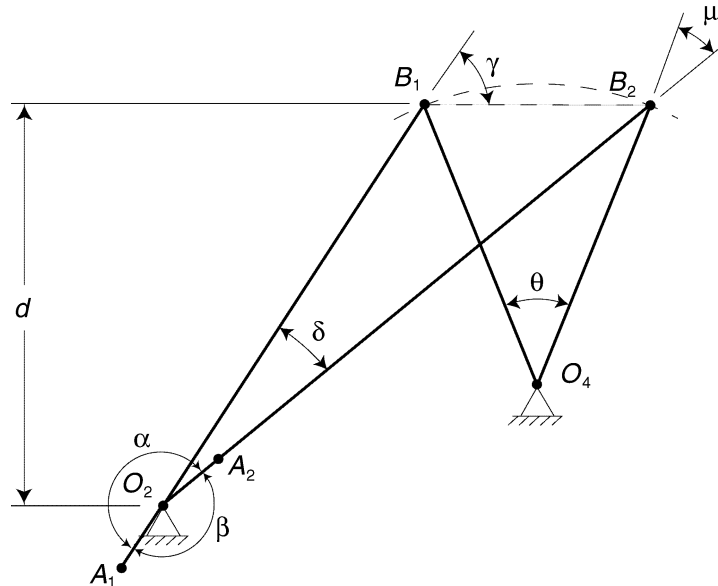

Figure 1. Graphical design of a crank-rocker type quick-return mechanism.
You will need a pencil, ruler, compass, and protractor for this design. Refer to Figure 1 during this process.
where  $d$  is the perpendicular distance between  $O_2$  and the line passing through  $B_1B_2$ , as indicated in Figure 1. Both of these criteria must be satisfied for the crank to rotate a full revolution.
8. The transmission angle  $m$  is the angle between coupler and the rocker. In the case of the crank-slider, the rocker can be viewed as having infinite length, thus the transmission angle is measured between the coupler and a line perpendicular to the slider path (not show on the Figure). When you have completed your design, it should look something like figure 1 below for the crank-rocker. The crank-slider will be similar with the exception of  $O_4$ .